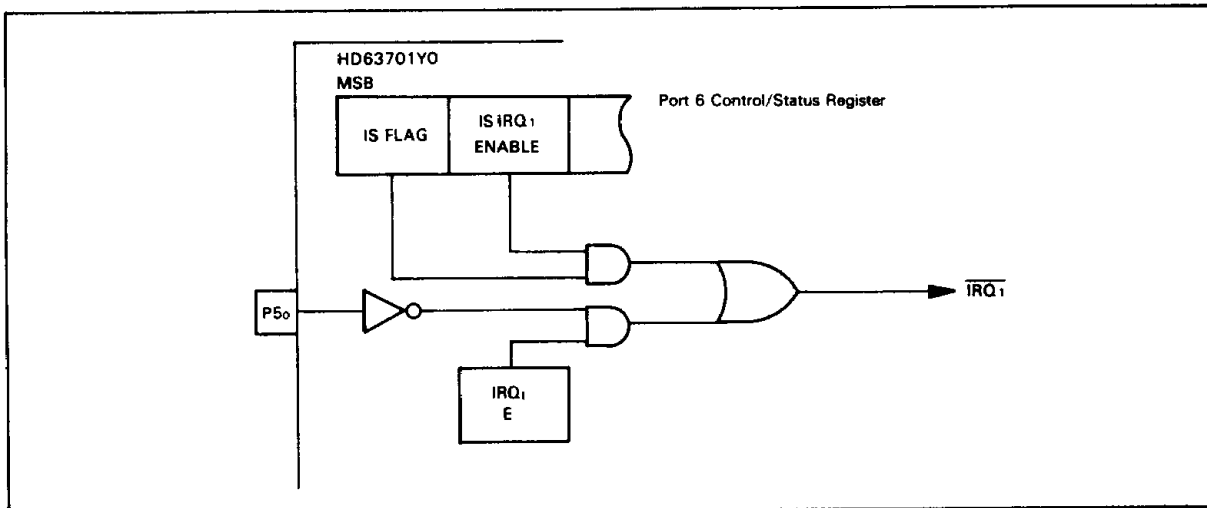

Figure 23. Input Strobe Interrupt Block Diagram
3. When IS FLAG is set by the falling edge of IS, an interrupt occurs (figure 23).